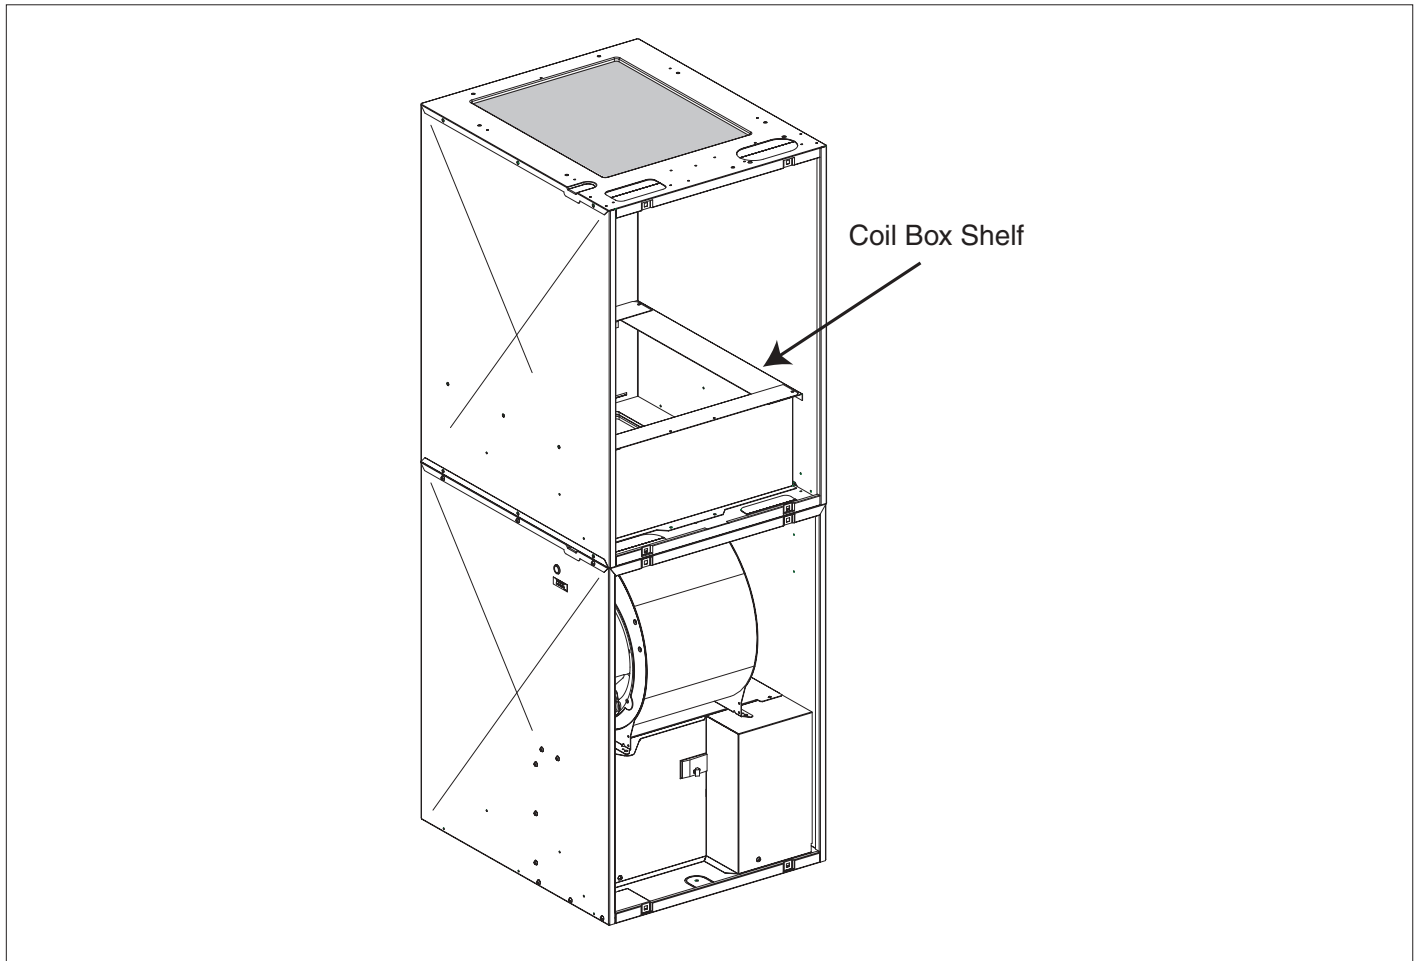

Figure 2. Downflow Installation
1. After securing the furnace as stated in its installation instructions (with the exception of the attachment of the return air grille mounting frame), position coil cabinet on top of furnace (See Figure 2). Secure with two or more fasteners at holes provided.